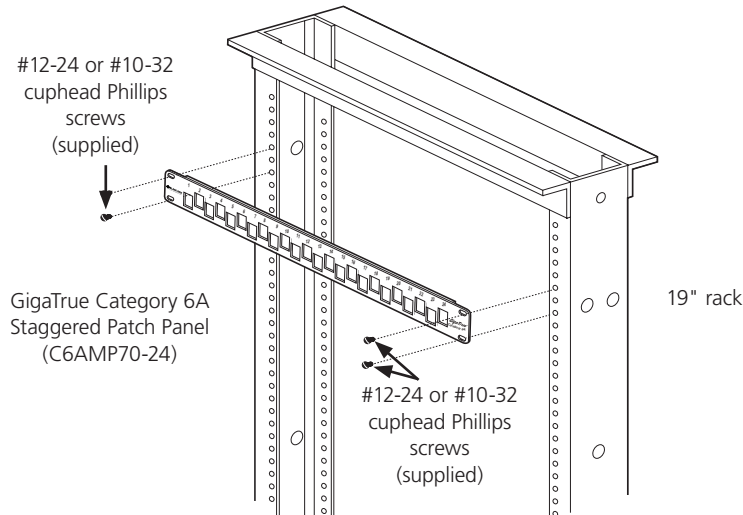

Figure 2. Installing the patch panel onto a rack.
3. Without using the cable management bar, mount the panels in a standard 19" relay rack using the supplied hardware. See Figure 2.